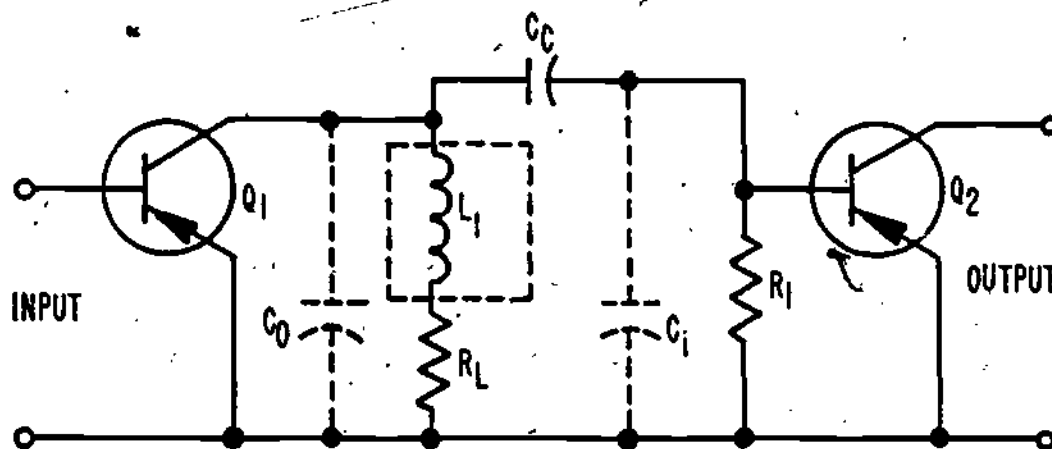

Figure 12
11. Now that you know why a standard audio amplifier has poor high frequency response, what can be done to improve it? Since it is not possible to remove C_o and C_i , they must be compensated for in some way. An inductor can be added in parallel with C_o and C_i to improve high frequency gain of the amplifier. Such a set-up is shown in Figure 12.
In Figure 12, L_1 (increases/decreases) the gain and output of Q_1 at (high/low) frequencies.